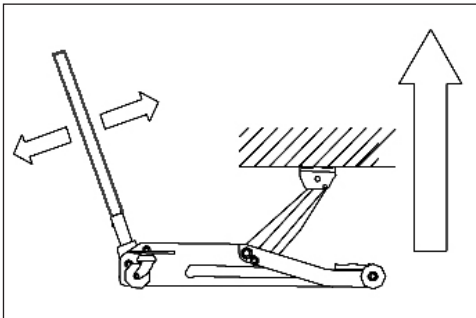

Fig. 5
5.1 Operating the Jack - Figs. 5 - 7